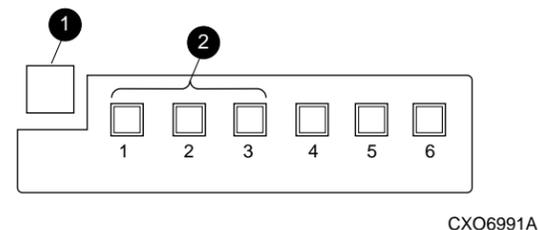

Figure 3. Controller reset button and first three LEDs
NOTE: After the controller shuts down, the reset button ① and the first three light emitting diodes (LEDs) ② turn On (see Figure 3). This might take several minutes to happen, depending on the amount of data that needs to be flushed from the cache module.